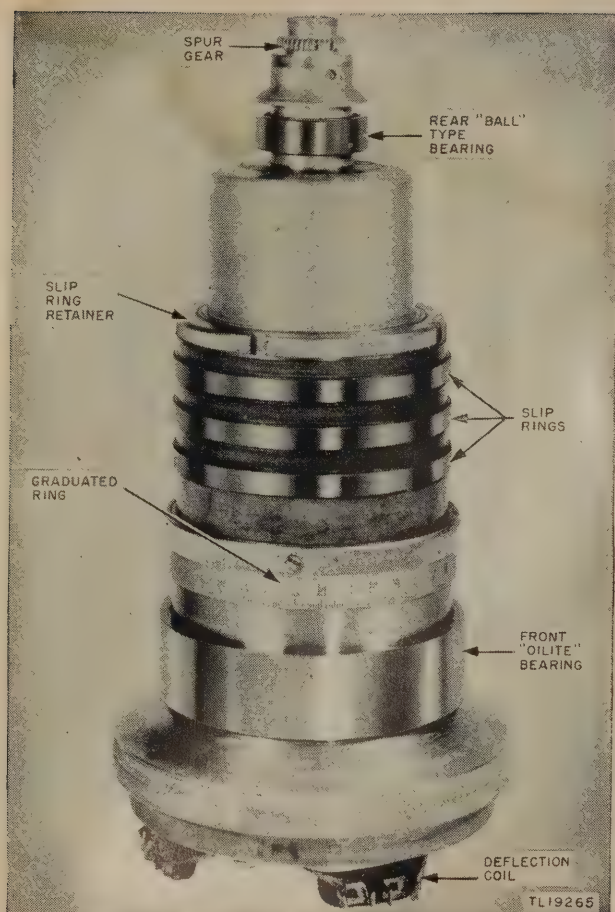

Figure 180. Deflection coil assembly.
- (6) Lift the deflection coil assembly (fig. 180) from the bearing supports.
- (7) Remove the axle and worm coupling from the end of the assembly (par. 178).